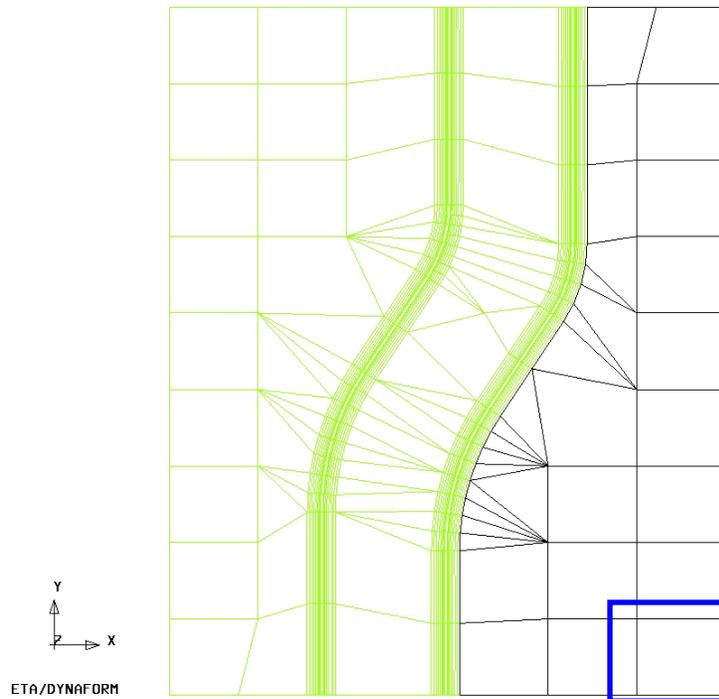

Figure 43: Selecting corner element
8. Now, use your mouse cursor to pick the element (as illustrated in Figure 43) on the lower right corner of **LOWTOOL**.
All elements in the flat area before an element angle change of larger than  $1^\circ$  should be highlighted. Compare your display to Figure 43. If your results differ, repeat the above steps.